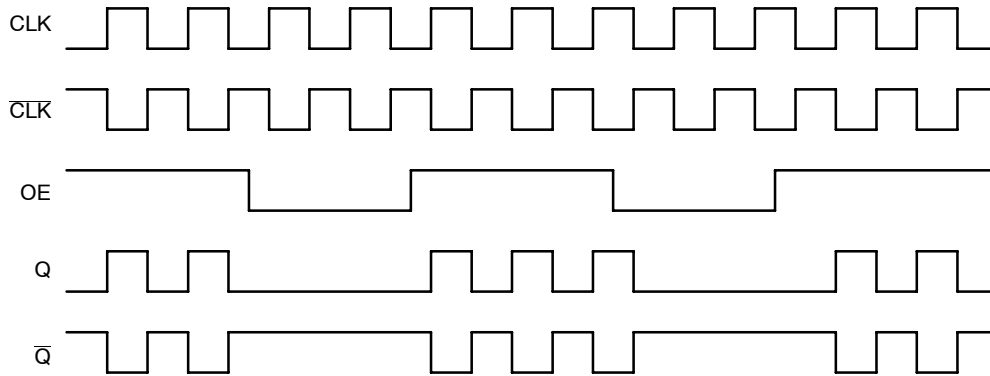

Figure 7. Output Enable (OE) Timing Diagram
7. OE Set Up Time is defined with respect to the rising edge of the clock. OE High-to-Low transition ensures outputs remain disabled during the next clock cycle. OE Low-to-High transition enables normal operation of the next input clock (See Figure 7).